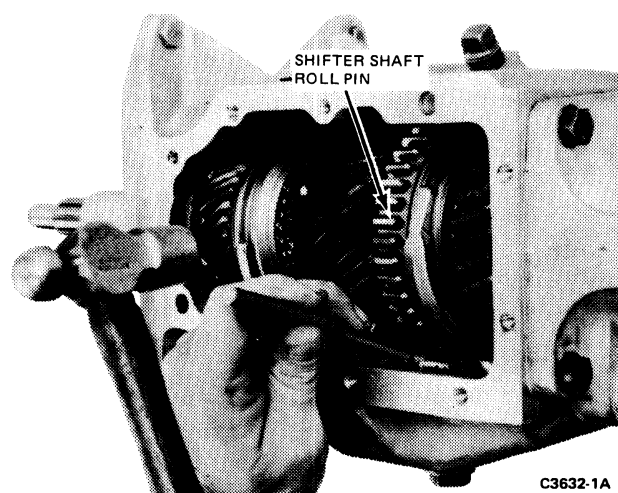

FIG. 6 Shifter Shaft Roll Pin Removal
4. Drive roll pin from shifter shaft (Fig. 6).